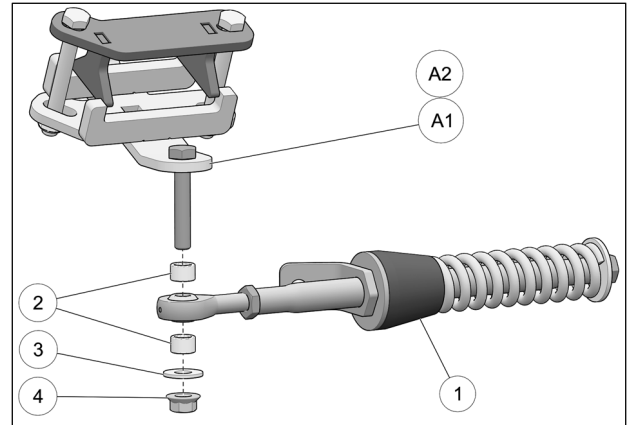

Fig. 17
- Attach the stabilizing rod (1) to the anchor bracket (A1-A2), using the two spacer bushings (2), flat washer (3) and nut (4). Torque to 70 Nm [52 lb-ft]. Refer to Fig. 17